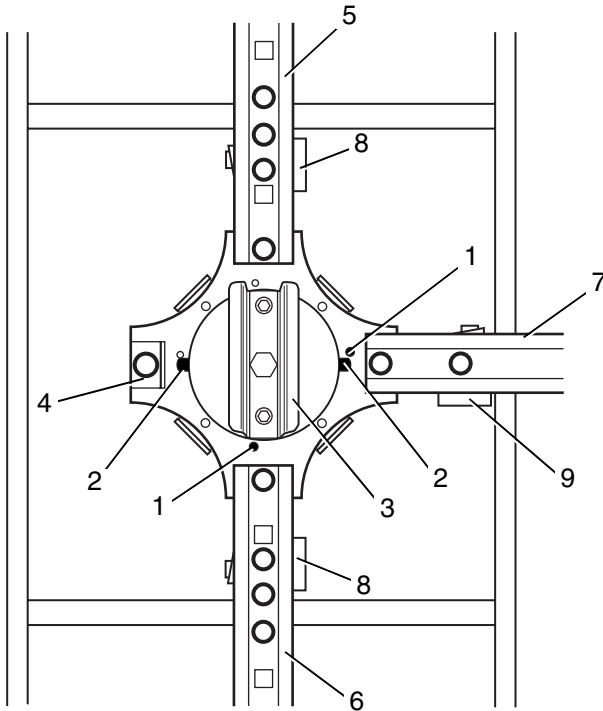

Fig. 18 Installation of the swivel plate (exit to the right)
If the swivel plate is installed with the exit to the right, the pins must be positioned as shown in Fig. 18, item 1.